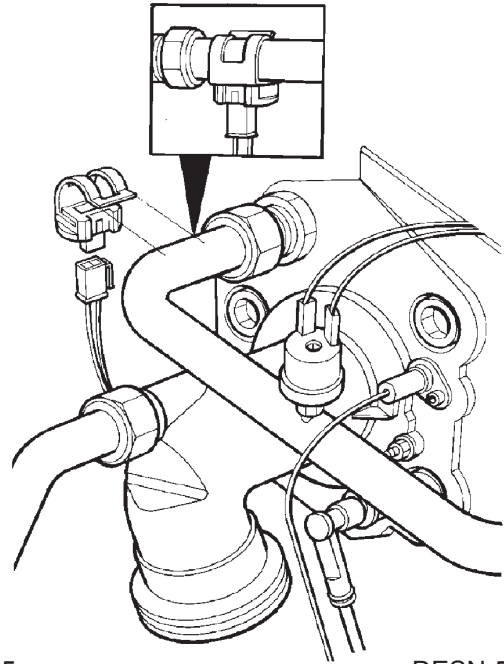

Fig. 25
SEE FIG. 25 & 26
1. To replace the flow and return sensor disconnect the electrical connection and then unclip from the pipe. (See Fig. 25).